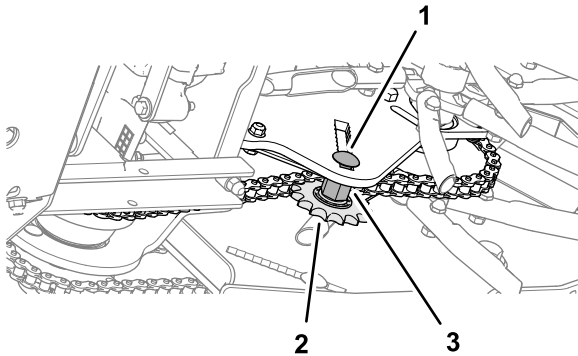

Figure 60
- To adjust the chain tension, loosen the idler bolt and threaded spacer, and push up on the sprocket to tighten the chain (Figure 60).